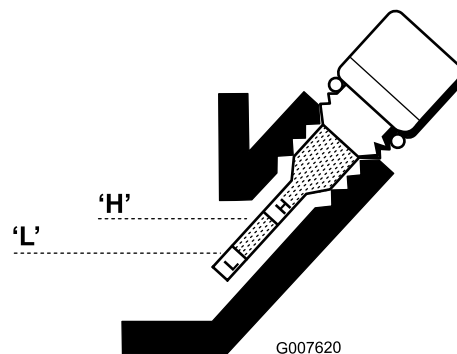

Figure 21
3. Wipe oil level gauge clean and insert it into filler port. Do not screw into port. Then remove and check level of oil. If level is low, add only enough oil to raise level until it is between the H and L marks on the gauge (Figure 21). Recheck level of oil. Do not overfill.